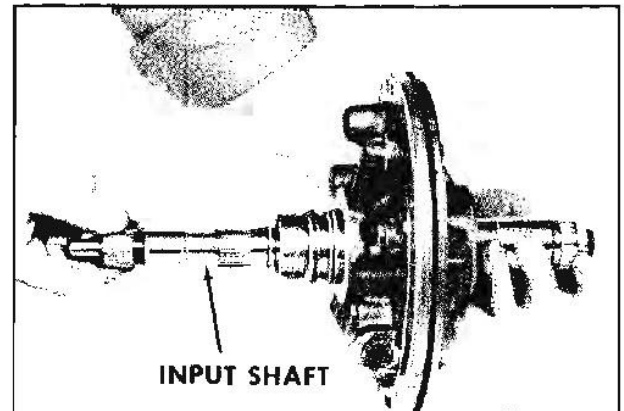

Fig. 7B-132 Installing Input Shaft into Pump
2. Install input shaft into oil pump (Fig. 7B-132) and install oil pump (less oil seal rings, but with old or .061" thrust washer) into case.